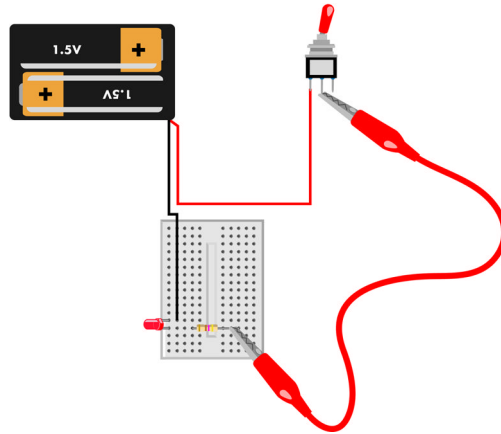

Figure 2-1. Circuit diagram for the simple switch circuit; the short lead connects to the black wire
Figure 2-1 shows the circuit diagram for this project. Here's how to wire it up:
1. Orient your breadboard so that it is taller than it is wide, as shown in Figure 2-1.